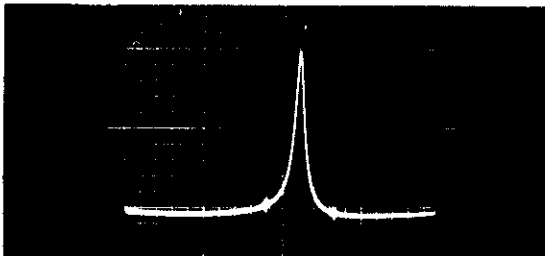

Fig. 34 "Spike" Showing Only Plate Circuit of Aural Amplifier Tuned
b. Operate the PLATE TUNING switch 7S29 to resonate the plate circuit. Unless the TUNE (7S30) or output tuning happens to be in resonance, the response obtained by tuning the plate circuit will be a single response which can be tuned to a frequency midway between the marker signals (1.5 megacycles above and below the aural carrier frequency); see Fig. 34.
b. Operate the PLATE TUNING switch 8S28 to resonate the plate circuit. Unless the TUNE (8S27) or output tuning happens to be in resonance, the response obtained by tuning the plate circuit will be a single response which can be tuned to a frequency midway between the marker signals (0.75 megacycles below and 4.2 megacycles above the carrier frequency), a condition similar to that shown in Fig. 34.